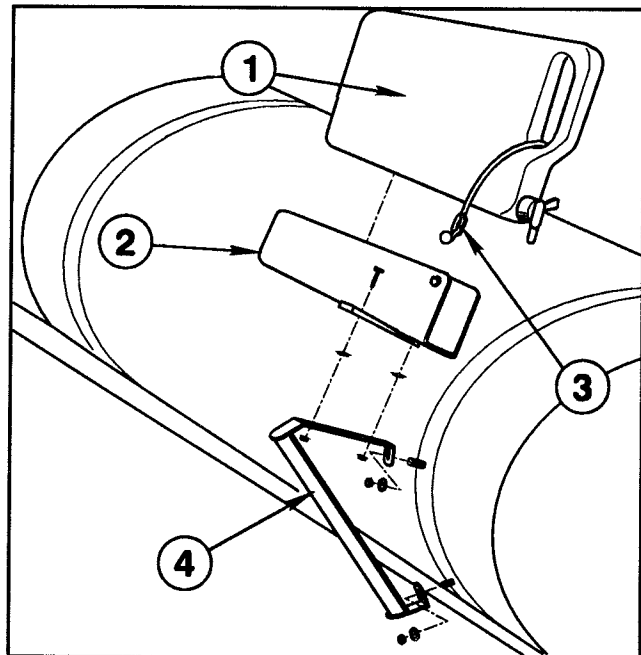

Figure 11
FRESH WATER TANK (Fig. 11)
2. Mount Wash Tank Bracket (open end forward) to right-hand Hold-In Brace assembly using two (2) 5/16" x 1" hex hd. cap screws, flat washers, and hex nuts. Place Clean Water Wash Tank into Wash Tank Bracket and secure with Rubber Hold-Down, as shown in FIG. 11.